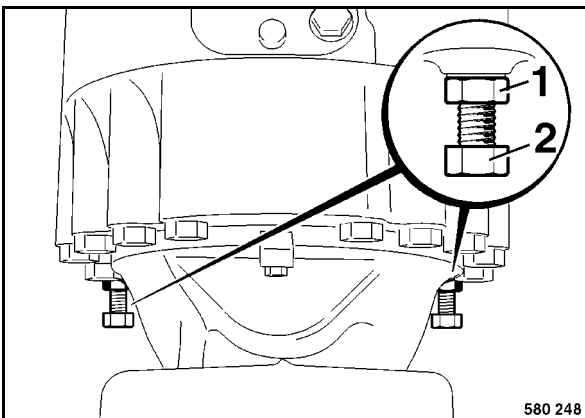

Fig. 49
- To release the brake turn counter nuts 1 (Fig. 49) approx. 8 mm back.
- Turn the brake releasing screws (2) completely in against the stop.